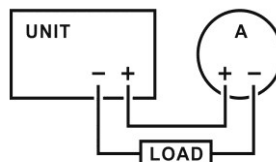

Fig. 2
2. Connect the ammeter to the unit (see fig. 2).